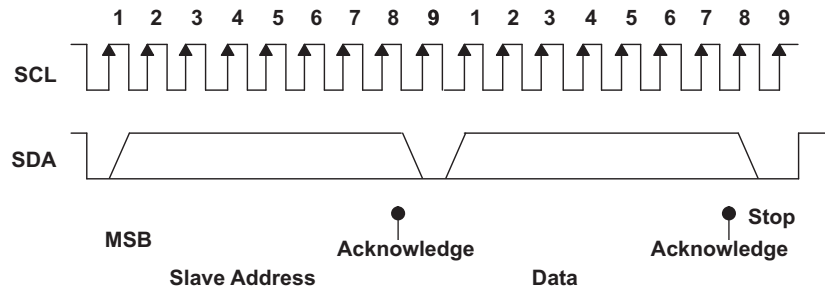

Figure 8. I²C Address and Data Cycles
- The master generates further SCL cycles to either *transmit* data to the slave ($\overline{R/W}$ bit 1) or *receive* data from the slave ($\overline{R/W}$ bit 0). In either case, the *receiver* must acknowledge the data sent by the *transmitter*. So, an acknowledge signal can either be generated by the master or by the slave, depending on which one is the receiver. The 9-bit valid data sequences consisting of 8-bit data and 1-bit acknowledge can continue as long as necessary (see Figure 8).